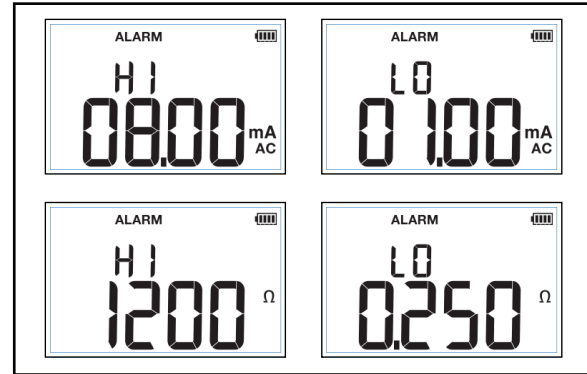

Figure 2. Alarm Functions
1. Push **SETUP** until **ALARM** shows in the display. See Figure 2.